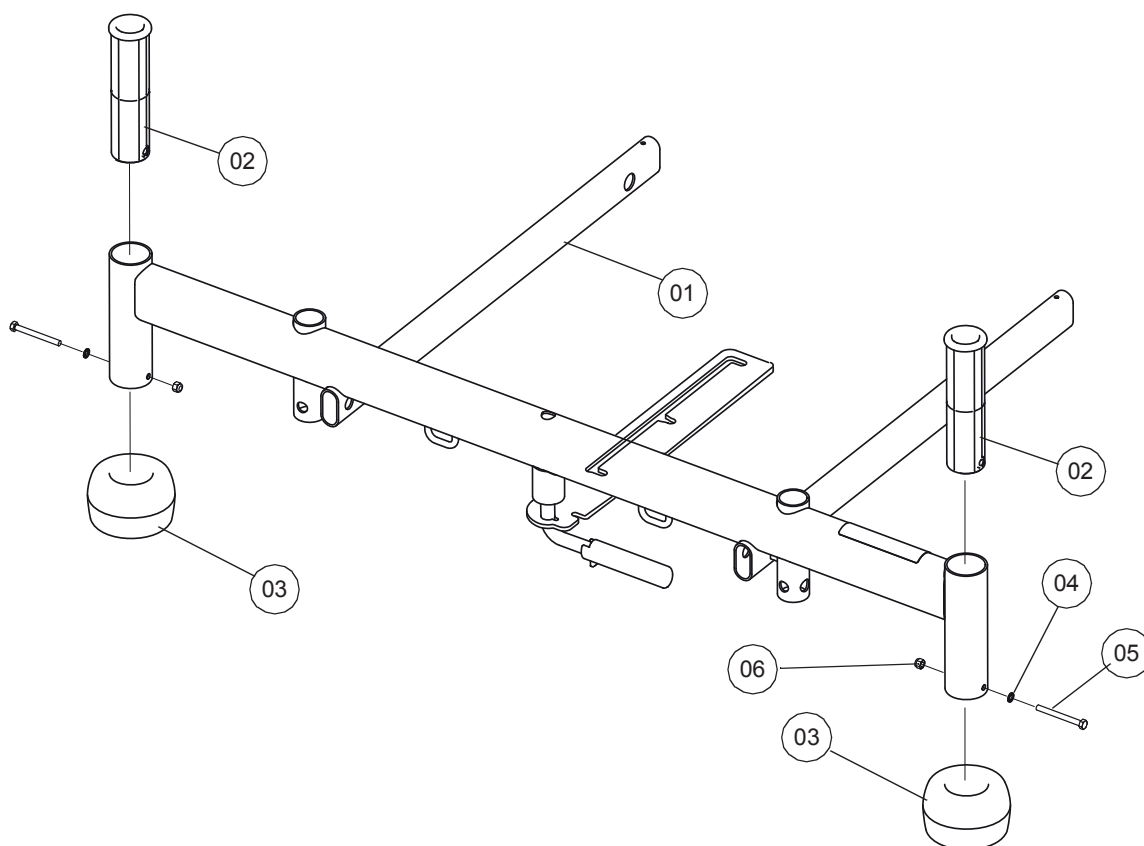

Figure 22: Roller buffer
This section describes how to replace the roller buffer. Reference is made throughout this section to Figure 22 on page 68.
- 24.1.1 Lift up the roller buffer moulding (Fig 22, Item 3). Undo the M5 Nyloc nut (Fig 22, Item 6) and withdraw the M5 hex head bolt (Fig 22, Item 5) from the mounting tube.
- 24.1.2 Collect the shakeproof washer (Fig 22, Item 4) and remove the roller buffer moulding.
- 24.1.3 If necessary, pull the corner tube liner (Fig 22, Item 2) up and out of the tube.
- 24.2.1 If previously removed, fit the corner tube liner (Fig 22, Item 2) down into the mounting tube on the bed extension fabrication (Fig 22, Item 1). Make sure the transverse holes in the tube and liner are aligned.
- 24.2.2 Fit the roller buffer moulding (Fig 22, Item 3) over the tube.
- 24.2.3 Fit the shakeproof washer (Fig 22, Item 4) onto the M5 hex head bolt (Fig 22, Item 5). Fit the bolt through the holes in the tube and liner.
- 24.2.4 Secure the assembly with a new M5 Nyloc nut (Fig 22, Item 6).